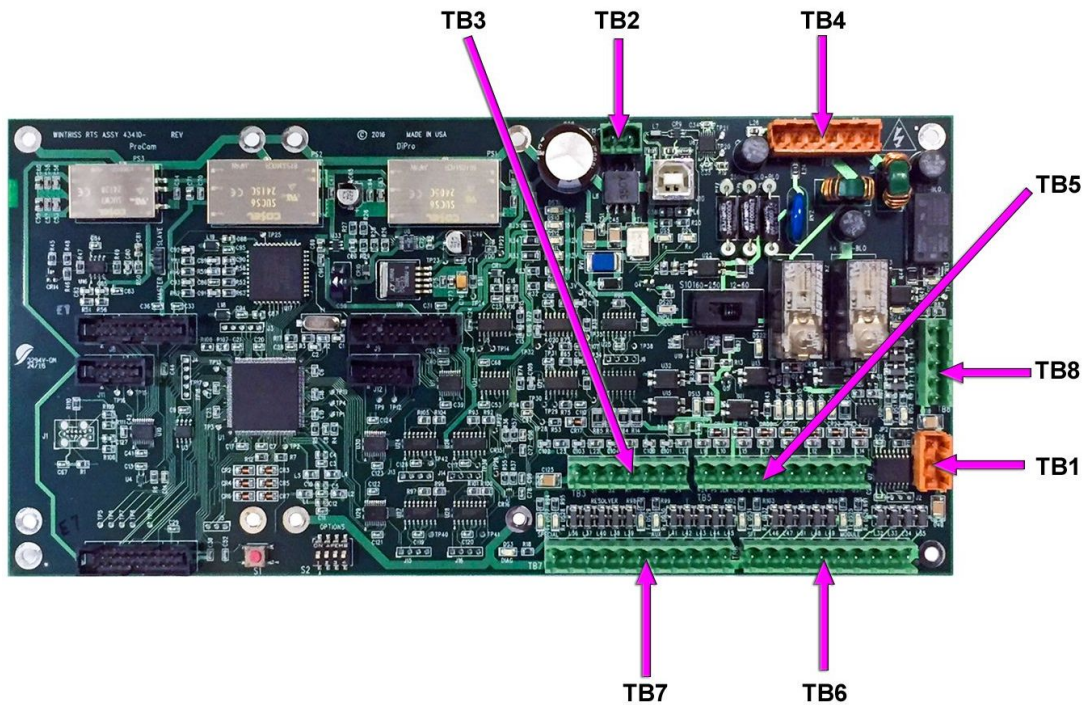
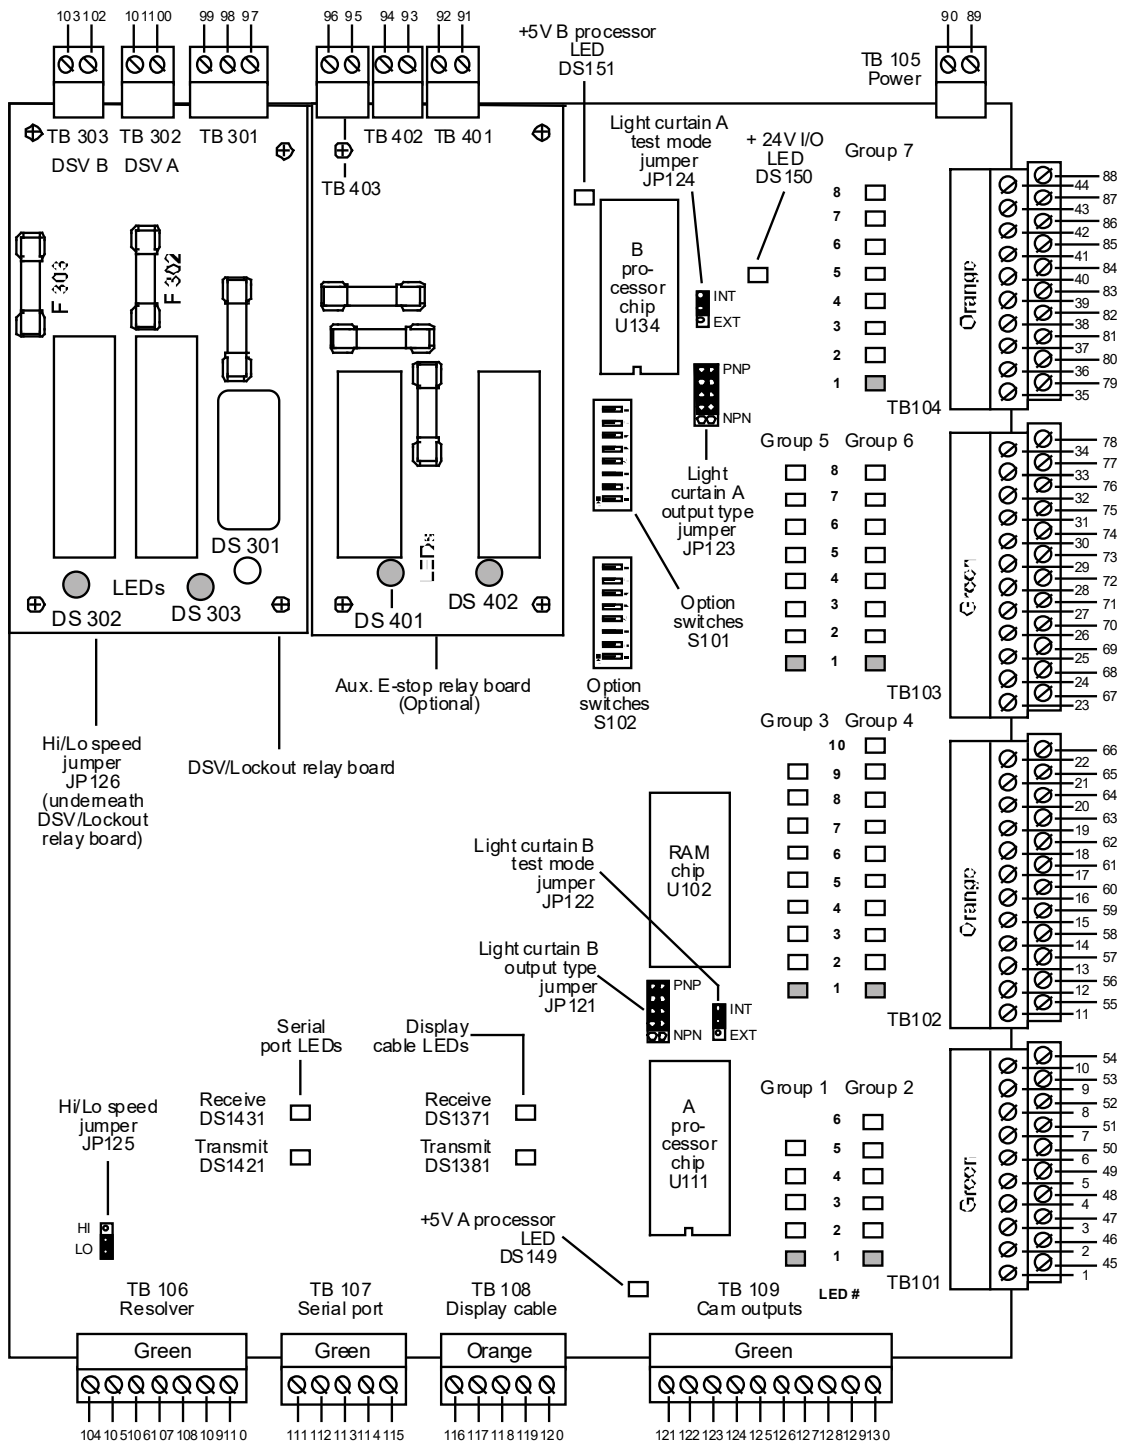

Figure 2-2. SmartPAC PRO Board with Terminal Block Locations
Figure 2-3. WPC 2000 Main Processor Board: Location of Important Components
As shown in *Figure 1-1* page 18, run the low voltage connections through one conduit, (including resolver and communications wiring, and 24 VDC); and high-voltage connections through a separate conduit (such as AC, stop circuit, and input check circuit wiring). Refer to *Figure 2-2* on page 25, *Figure 2-3* on page 26, and wiring diagrams *Figure 1* or *Figure 2* at the end of this manual when making wiring connections.
To wire the resolver from WPC 2000 to SmartPAC PRO, perform the following steps, referring to Table 2-2 on page 28, Figure 2-2 on page 25, the WPC 2000 Main Processor Board figures in your WPC manuals, and wiring diagrams Figure 1 or Figure 2 at the end of this manual.
4. Remove the resolver connector, TB3, from the SmartPAC PRO board (see Figure 2-2) and connect wiring from the 6-conductor cable to terminals 212 through 218, as shown in Table 2-2. Plug the connector back into TB1 when you are done.
2. Remove the TB8 connector from the SmartPAC PRO board (see Figure 2-2 page 25 for location), and connect wiring from the 6-conductor cable as shown in Table 2-3. Plug the connector back into TB8 when you are done.
2. Locate connector TB4 on the SmartPAC PRO board (see Figure 2-2 page 25) and unplug it from its socket. Connect the wires for stop and input check circuits to TB4 pin locations, as shown in Table 2-4, below, and wiring diagrams Figure 1 or Figure 2 at the end of the manual. Plug the connector back into TB4 when you are done.